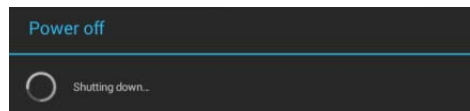

FIG. 102 Firmware Update - reboot and complete firmware update
7. After copying the firmware package to the staging location, the panel will reboot and complete the firmware installation process (FIG. 102):